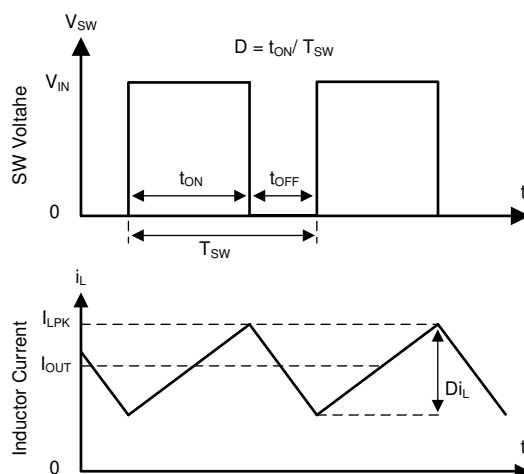

图 8-1. SW Node and Inductor Current Waveforms in Continuous Conduction Mode (CCM)
The following operation description of the LV3842 will refer to the 节 8.2 and to the waveforms in 图 8-1. LV3842 is a step-down synchronous buck regulator with integrated high-side (HS) and low-side (LS) switches (synchronous rectifier). The LV3842 supplies a regulated output voltage by turning on the HS and LS NMOS switches with controlled duty cycle. During high-side switch ON time, the SW pin voltage swings up to approximately V_{IN} , and the inductor current i_L increases with linear slope $(V_{IN} - V_{OUT}) / L$. When the HS switch is turned off by the control logic, the LS switch is turned on after an anti-shoot-through dead time. Inductor current discharges through the low-side switch with a slope of $-V_{OUT} / L$. The control parameter of a buck converter is defined as Duty Cycle $D = t_{ON} / T_{SW}$, where t_{ON} is the high-side switch ON time and T_{SW} is the switching period. The regulator control loop maintains a constant output voltage by adjusting the duty cycle D . In an idea Buck converter, where losses are ignored, D is proportional to the output voltage and inversely proportional to the input voltage: $D = V_{OUT} / V_{IN}$.